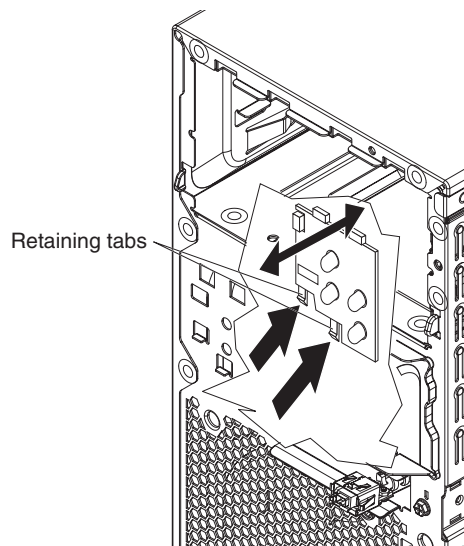

Figure 41. Removing the power switch/LED assembly
9. From the front of the computer, press up and inward on the two retaining tabs that secure the bottom of the power switch/LED assembly to the chassis (see Figure 41).